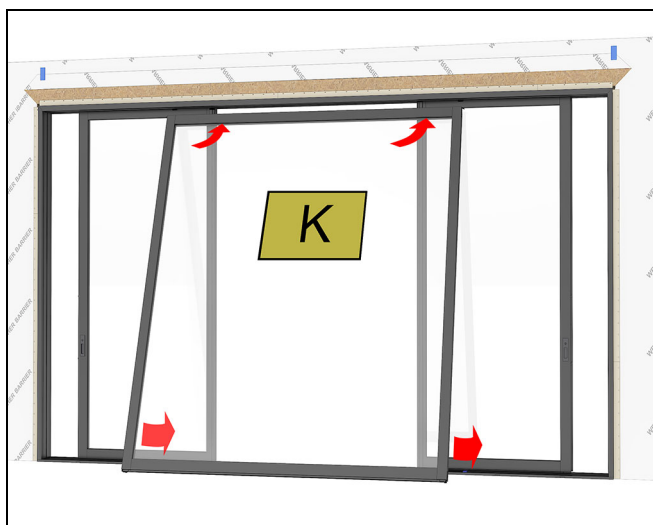
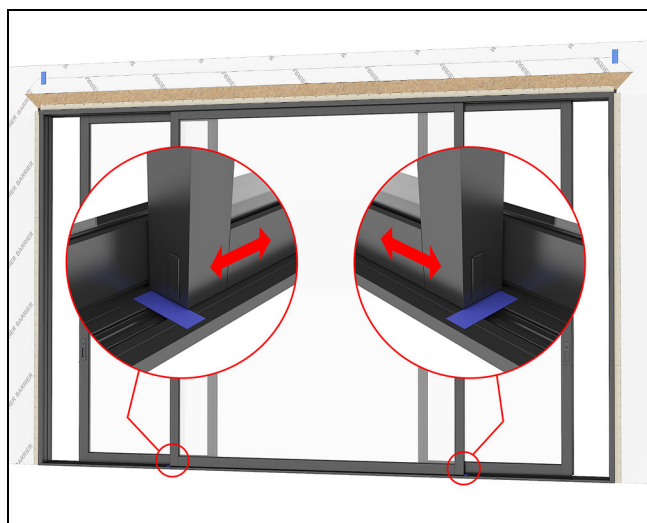

Figure 150 XOX shown with K panel
Figure 151
5. Install the (K) stationary panel. Line up the left outside edge of the panel with the left mark made on the sill earlier in step 3 on page 49. See Figure 150 and Figure 151.